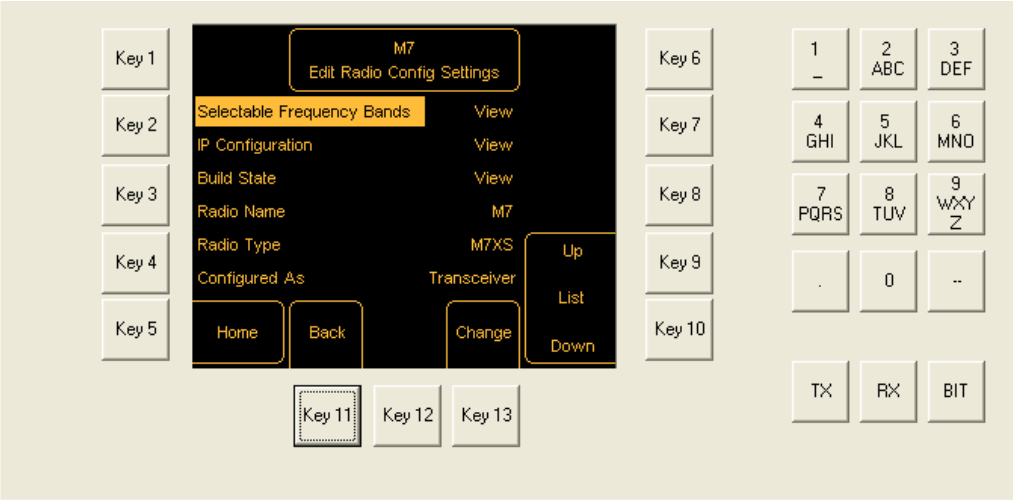

Fig 3-30 Edit Radio Config Settings Screen – Selectable Frequency Bands
- (2) Ensure the Edit Radio Config Settings screen is displayed (Fig 3-30).